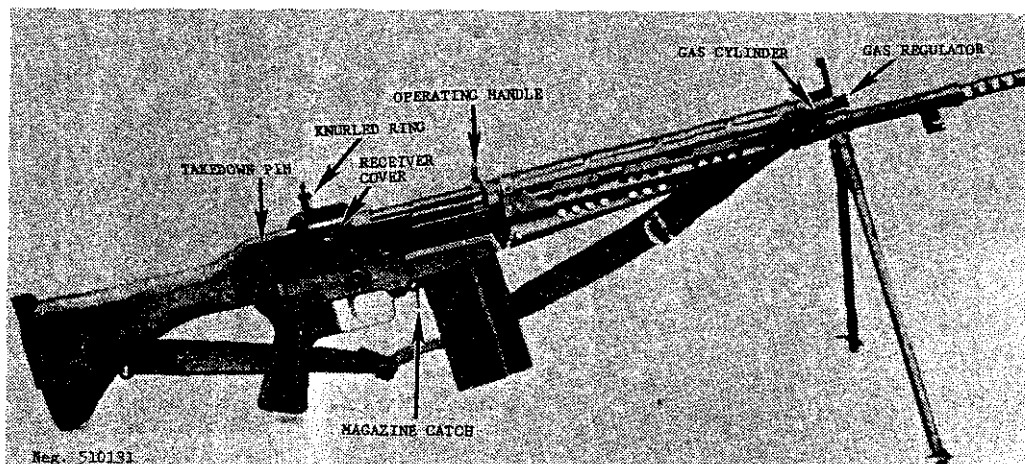

Figure 132. Japanese Type 64 rifle.
a. The 7.62-mm Type 64 rifle (fig 132) was developed in Japan. It is the standard rifle of the Japanese Ground Self-Defense Force but is used by no other country.
b. The gas regulator (fig 132) has three settings. The lower is used for firing full-powered 7.62-mm NATO cartridges; the mid setting is used for firing violet-tipped Japanese reduced-power cartridges, or to give increased power when firing 7.62 NATO cartridges in a fouled rifle. The upper setting is used when firing violet-tipped cartridges in a fouled rifle. Set the regulator by rotating it as necessary.
c. Adjust the rear sight for range by twisting the knurled ring on the rear sight (fig 132). Windage corrections can be made by rotating the windage knob.
d. Pull the operating handle (fig 132) fully rearward and release it. CAUTION: The rifle is now loaded and ready to fire. Pull out the selector and rotate it to the position desired (rearward
e. To unload or clear the Type 64, rotate the selector to its vertical or safe position, press the magazine catch (fig 132) toward the magazine and rock the magazine forward, out of the rifle. Pull the operating handle to the rear and inspect to insure that no cartridges are present. Release the operating handle, rotate the selector off safe, press the trigger and move the selector back on safe. Insert the magazine. If desired, fold the sights and bipod.
b. Pull the takedown pin (fig 132) to the right, then lift up the rear end of the receiver cover (fig 132) until the cover comes off. Pull the driving spring out of the bolt carrier, then pull the carrier (fig 132) to the rear until it can be lifted out of the receiver. Lift the bolt out of the receiver.
- a. The Type 64 rifle is gas operated. When the weapon is fired, some of the propellant gases are tapped off through the gas port as the bullet passes the port and enters the gas cylinder (fig 132). The gases drive the piston rearward, and the rear end of the piston strikes the bolt carrier and drives it rearward. The piston's spring has been compressed and now returns the piston forward.